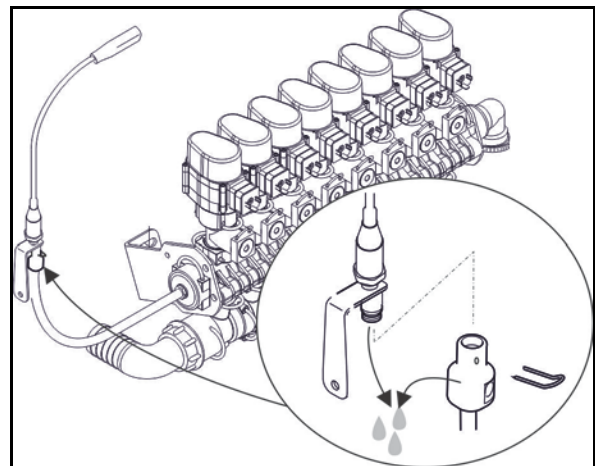

Fig. 159
21. **Super-S-Gestänge:** drain the pressure sensor (Fig. 159/1), by removing the hose from the pressure sensor.